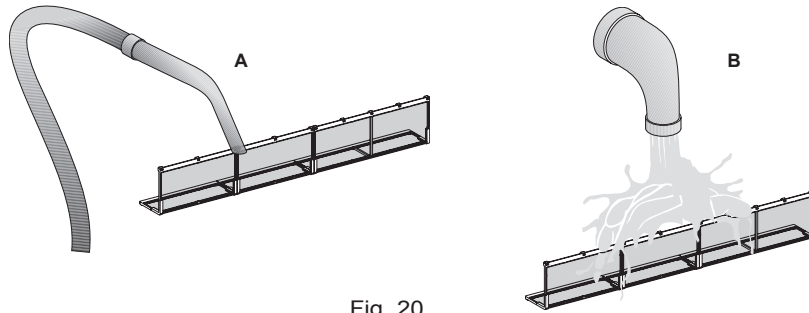

Fig. 20
- suck up the powder with a vacuum cleaner (fig. 20 ref. A)
- wash the filter (fig. 20 ref. B) with running water without using detergents or solvents, and leave to dry.